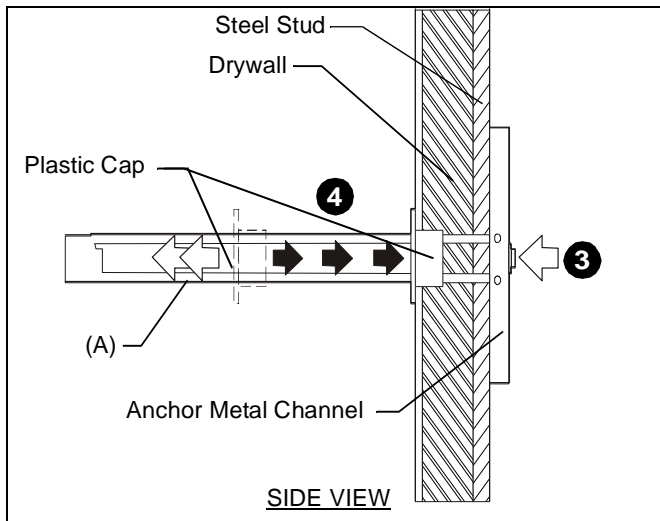

Figure 2
3. Holding plastic straps on anchor (A), pull anchor away from wall until channel rests flush behind wall making sure anchor channel is positioned vertically on stud. (See Figure 2)
4. Slide plastic cap on anchor (A) towards wall until flange of cap is flush with wall. (See Figure 2)